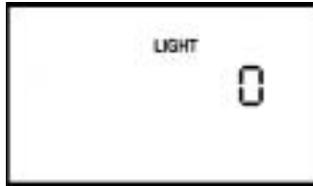

Figure 6–16 LED Backlight Setting Screen
1. From the Patient Disconnect Setting screen, press the **Right User** button to access the LED Backlight Setting screen, shown in Figure 6–16.